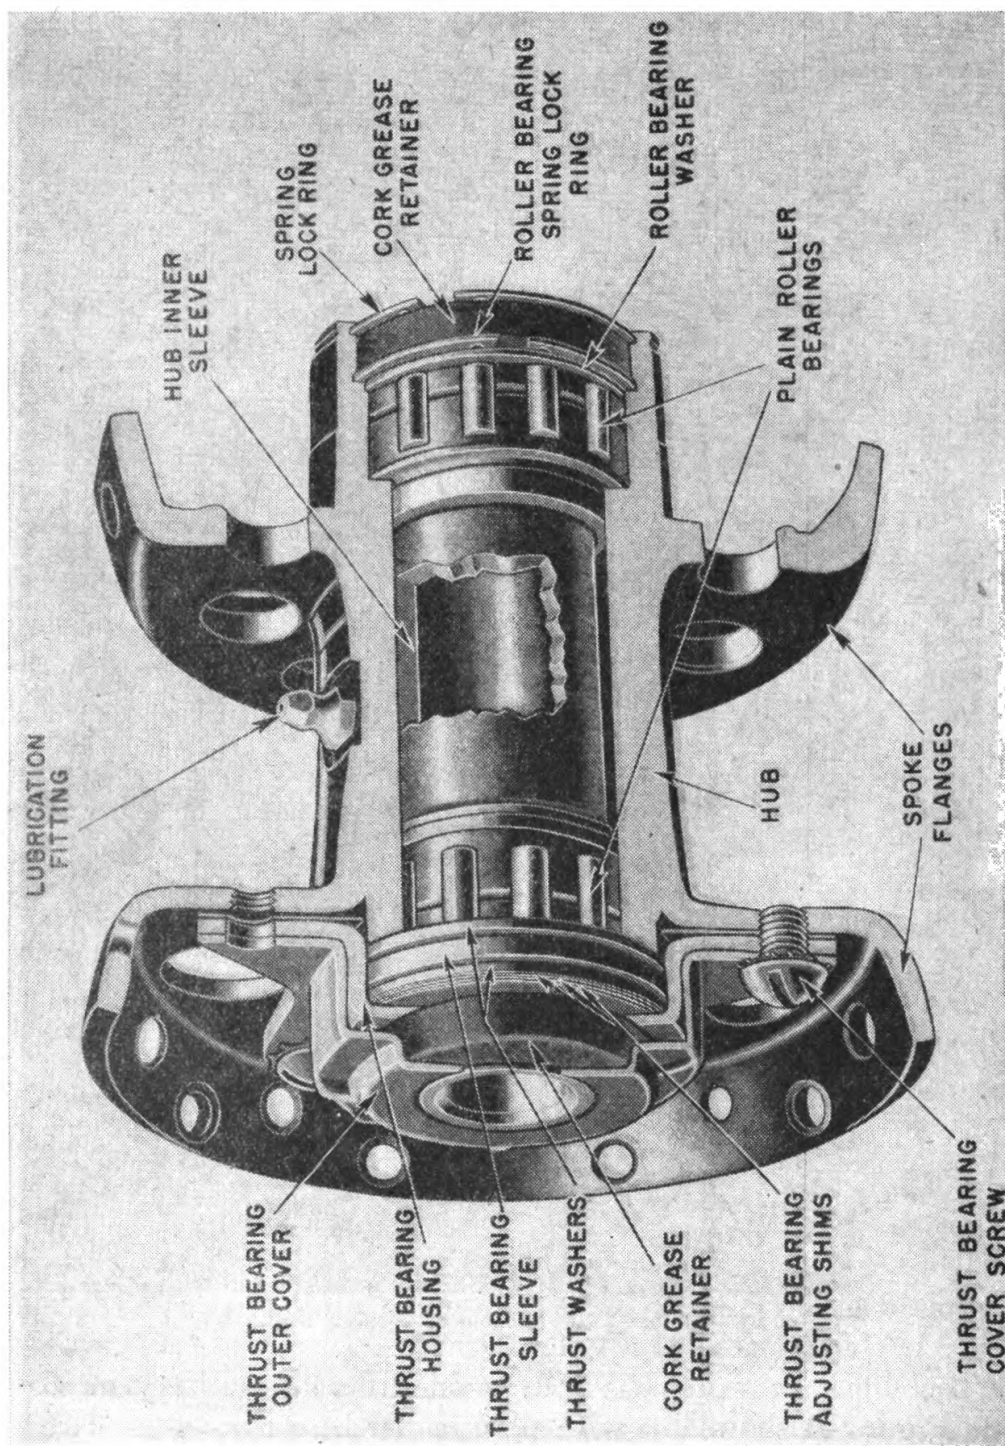

FIGURE 21.—Plain roller-bearing wheel hub.
c. Wheel hubs vary in construction on different military motorcycles. Figure 21 shows one with plain roller bearings. Any excessive end play that may develop in this type of hub is taken up by removing the thrust bearing outer cover and adding more shims. Be careful not to add too many shims; they will cause the thrust bearing sleeve to bind when the cover screws are securely tightened. Since